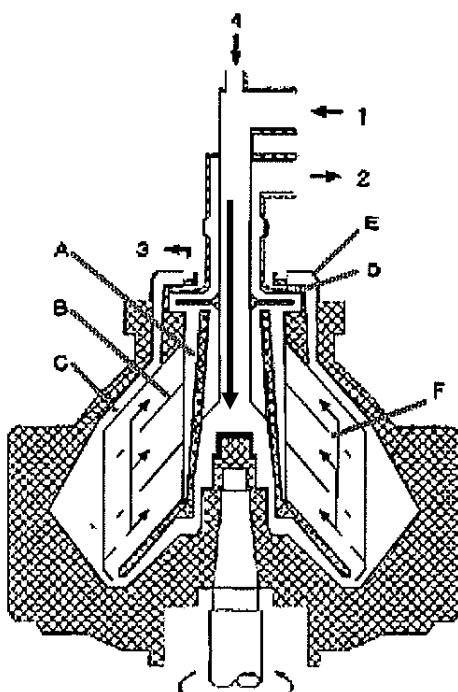

Fig 3.2
If oil is introduced into an empty Bowl, oil will occupy all the space inside the bowl and thus subsequently will flow out from the Water outlet side since there is no sealing water inside the bowl and the inner diameter of the Gravity disc is bigger than the inner diameter of the disc (B) (oil outlet weir H). This has been shown in figures 3.2 & 3.3.